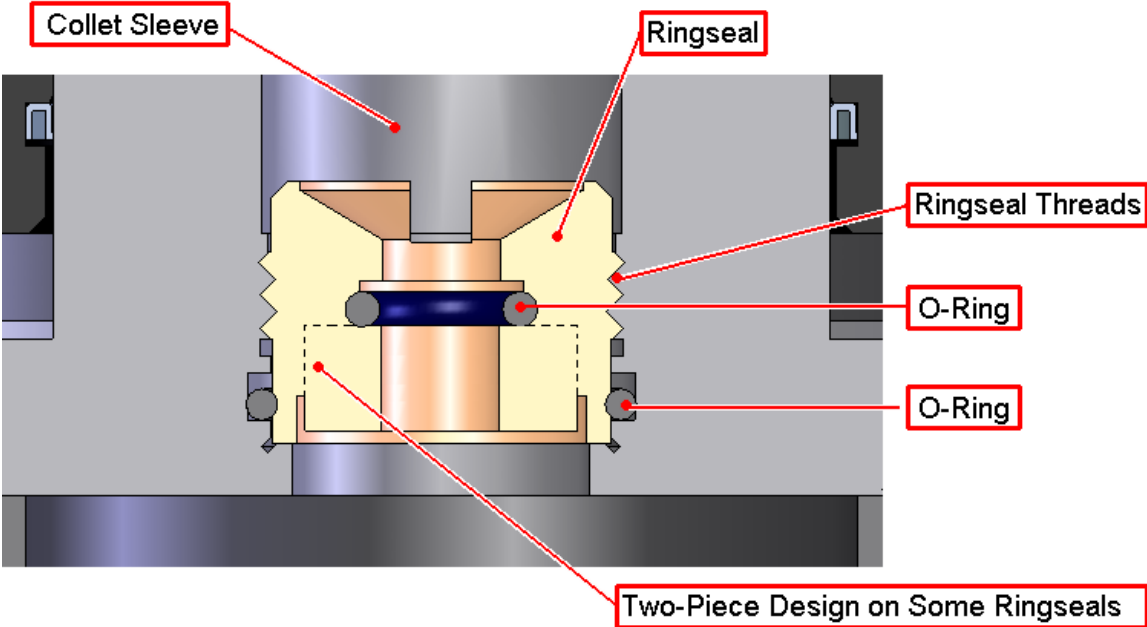

Figure 4-7: Cross-Section View of Ringseal Showing O-Ring
- Step 5: Remove the o-ring on the ringseal itself, and replace it with a properly lubricated new item. The second o-ring is within the collet sleeve (shown in Figure 4-7). A long pick or thin screwdriver will be necessary to remove the o-ring and replace it.